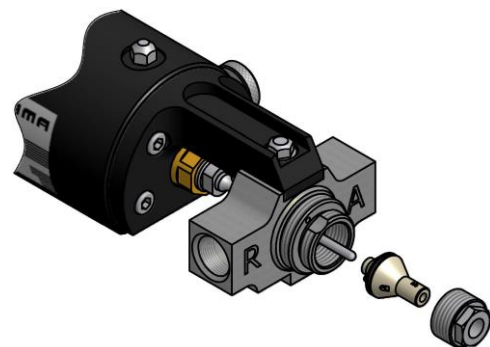

Figure. 12
12. Remove the mixing module from its housing and clean it with gun-cleaning solvent. If the product holes are blocked, clean them with the drills supplied along with the module (see **Figure. 12**).
9. Unscrew the module tightening nut by turning it anti-clockwise (see **Figure. 12** page 14).
10. Remove the mixing module from its housing and clean it with gun-cleaning solvent (see **Figure. 12** page 14).